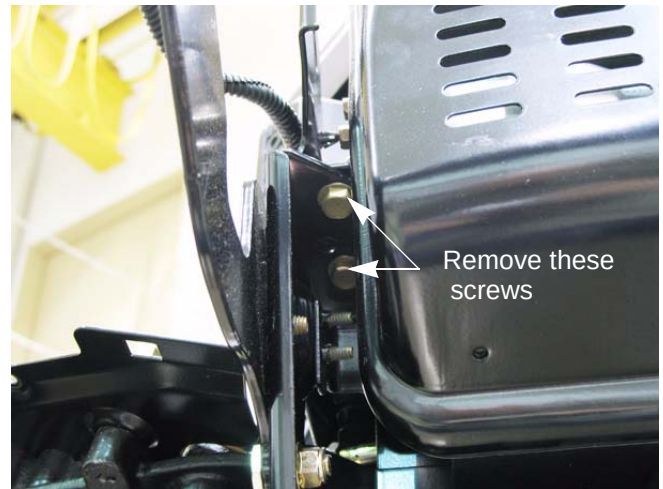

Figure 2.2
3. Remove the hood pivot brackets by removing the two screws that hold each one on. See Figure 2.2.